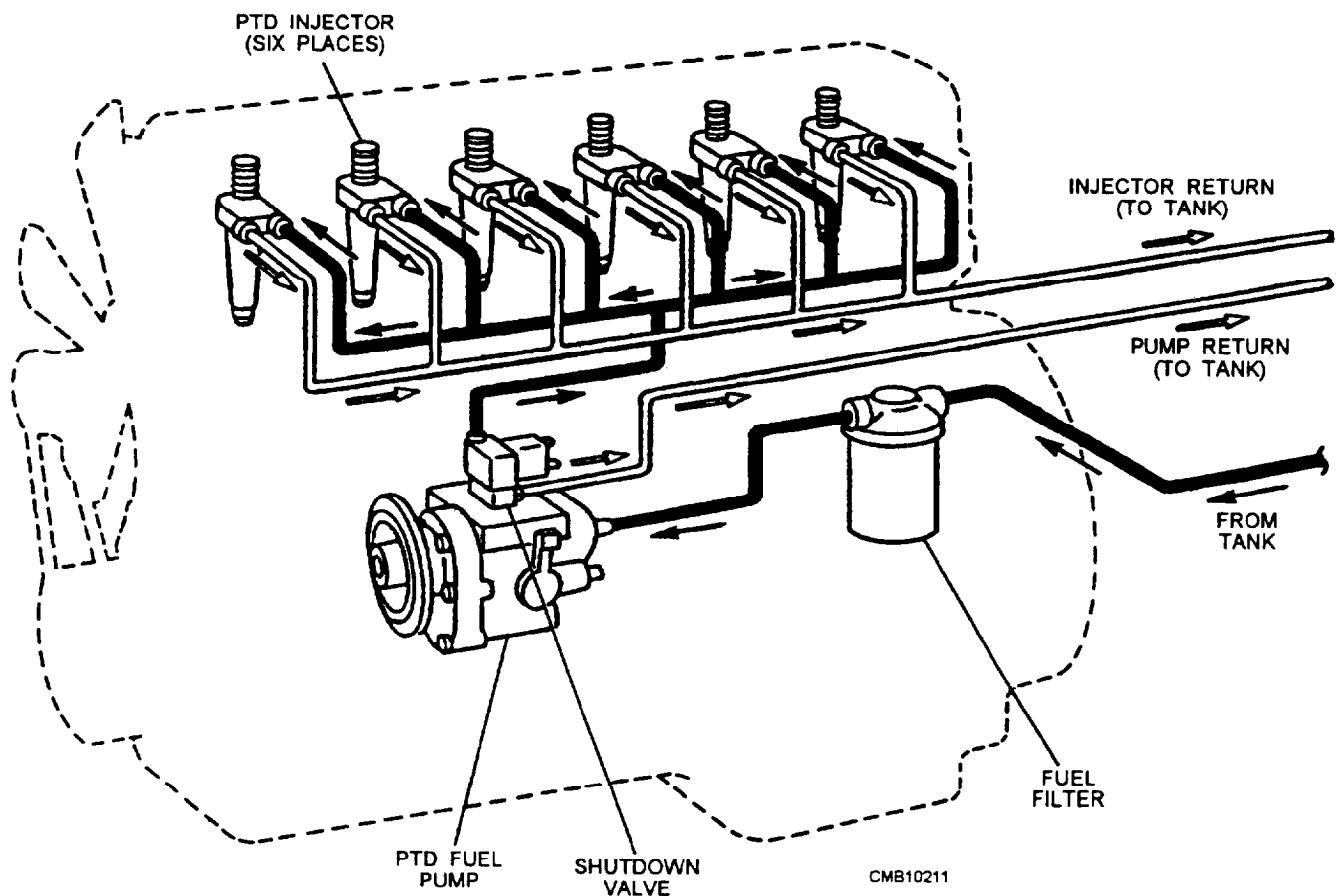

Figure 5-28.—Pressure-time fuel system.
The pressure-time (PT) fuel system (fig. 5-28) is exclusive to Cummins diesel engines; it uses injectors that meter and inject the fuel with this metering based